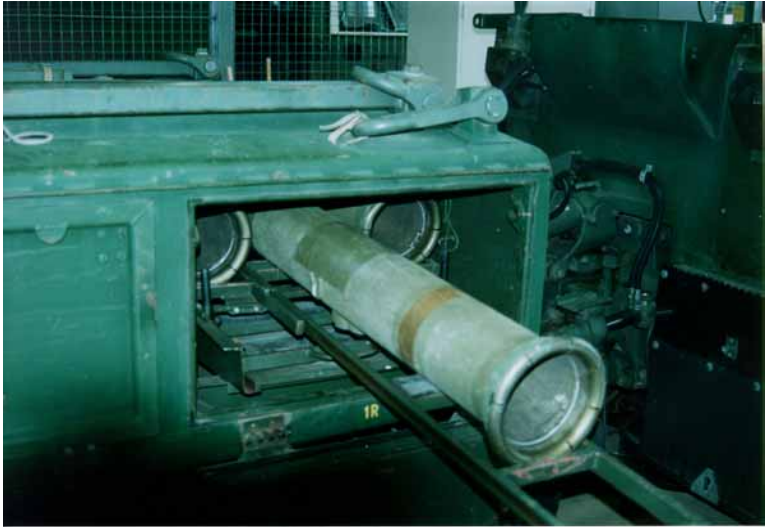

Figure 3-2-5: Encased Missiles Stowage Location
- e. **Encased Missiles.** (TOW Ammunition). The ammunition is stowed in a double-tier rack in the front compartment of the rear car and is reached through the right front hatch (R1) (see Figure 3-2-5). There are two missiles on the bottom tier and three on the top.